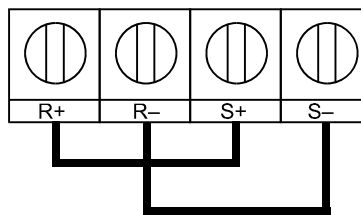

Fig. D.3 RS-485 Communication Connection
3. When using RS-485 communication, connect S+ to R+, and S- to R-, on the control circuit terminal board. See Fig D.3 below.